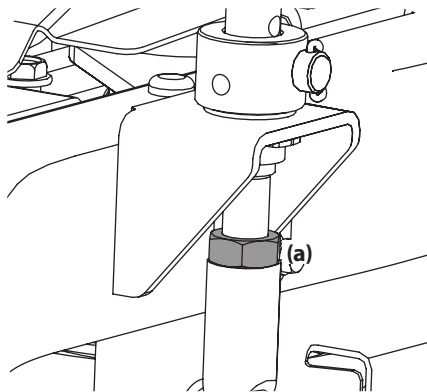

Figure 14
3. There are four adjustment points on the deck. Each of the deck lift adjustment pins has an adjustment bolt (a). See Figure 14. Raise or lower each side of the deck using the four bolts (a) until the side-to-side height is equal.
1. Raise or lower the front and/or rear of the deck using the four adjustment bolts (a) on the deck lift adjustment pins until the front of the deck is 1/4-3/8" lower than the rear of the deck. See Figure 14.